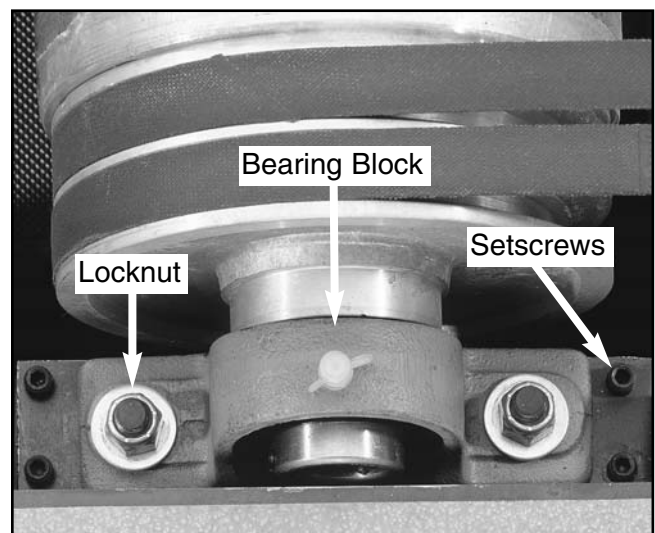

Figure 7. Bearing block adjustments.
1. Loosen the lock nuts (**See Figure 7**) on one of the bearing blocks on the drum that requires adjustment.
2. Raise or lower the bearing block by rotating the setscrews (**See Figure 7**). Turn very gradually $\frac{1}{8}$ of a turn or less.